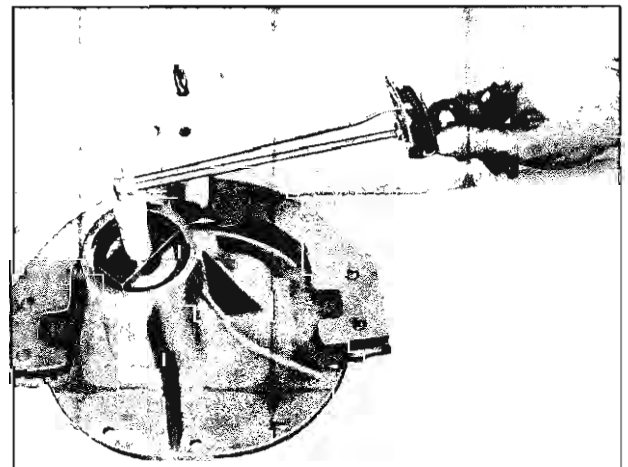

Fig. 21—Measuring Pinion Bearing Simulated Preload
8. Oscillate gauge plate and bearings several times to be sure bearings are seated and then draw up hex nut until 20 inch-pounds of torque are required to oscillate plate and bearings. See Figure 21.
simulated preload of pinion bearings after assembly. After tightening the clamp bolt nut, the 20 in. lb. torque is measured as shown in Figure 21.